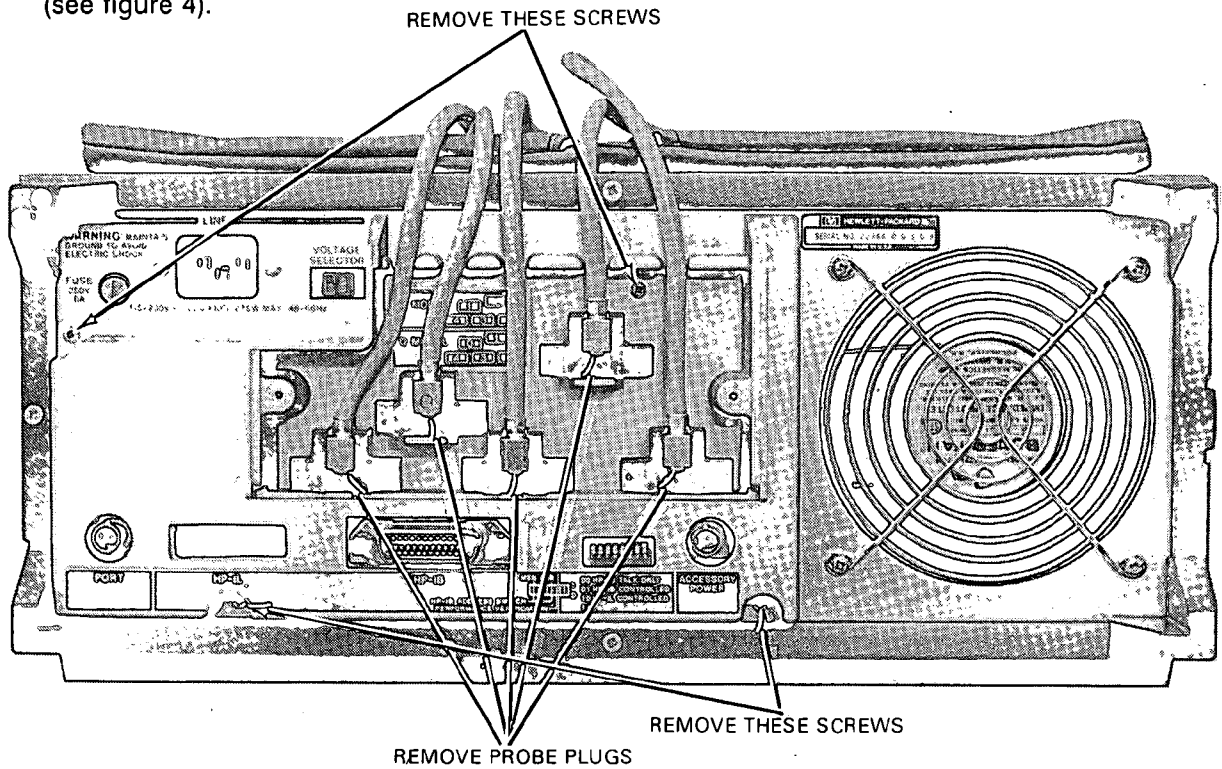

Figure 4.
- 5) Disconnect the acquisition probe plugs from the connectors on the back of the PC boards (see figure 4).
- 6) Remove the screws that attach the rear casting and remove the casting (see figure 4).